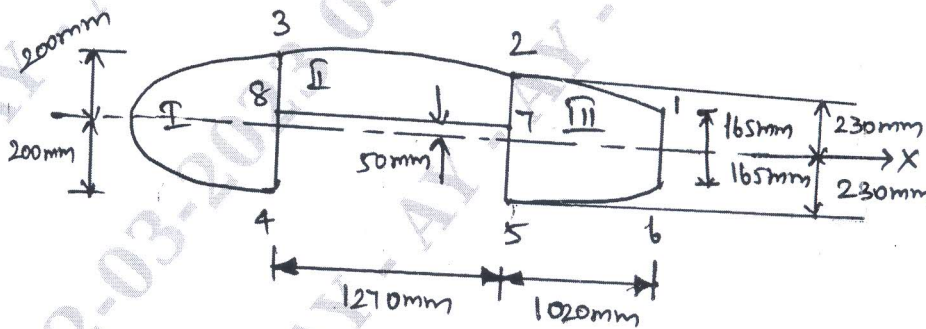

Fig Q8
- 8 The wing section shown in Fig Q8 has been idealized such that the booms carry all the direct stresses. If the wing section is subjected to a bending moment of 300kNm applied in a vertical plane, calculate the direct stresses in the booms.